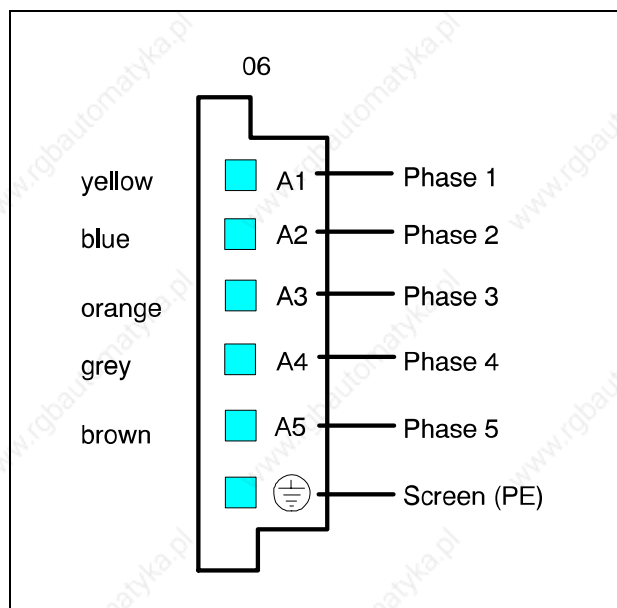

Figure 2-4 Motor Connection
2. Insert the six wires according to figure 2-4 into the cap of the mating plug and tighten the screws.